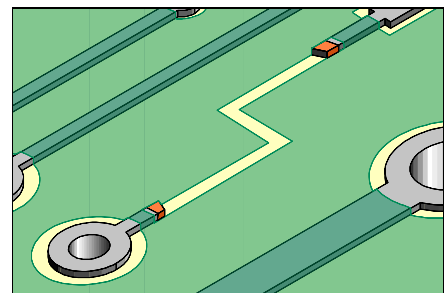

Figure 1: Scrape off any solder mask or coating from the ends of the remaining circuits.
3. Use a knife and scrape off any solder mask or coating from the ends of the remaining circuit. (See Figure 1).